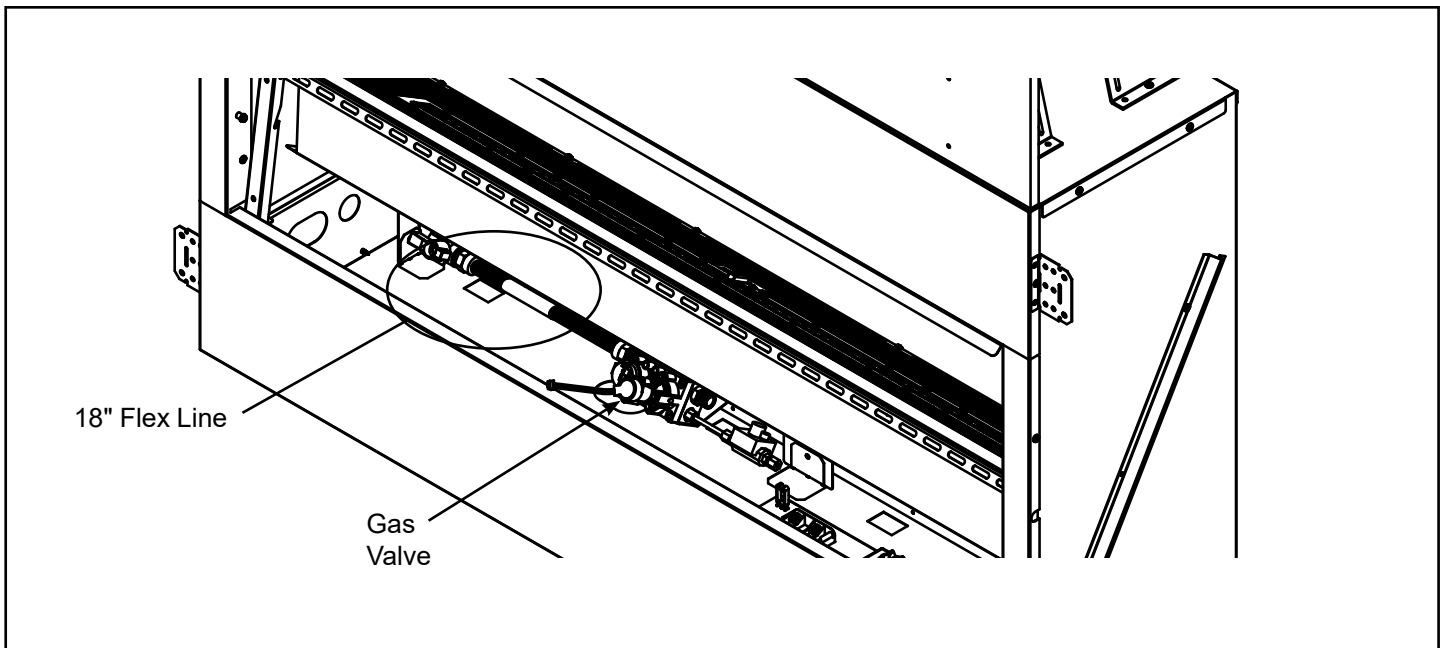

Figure 5.7 - Gas Fitting Access
- Refer to Figure 5.7 for location of gas flex line access in appliance.